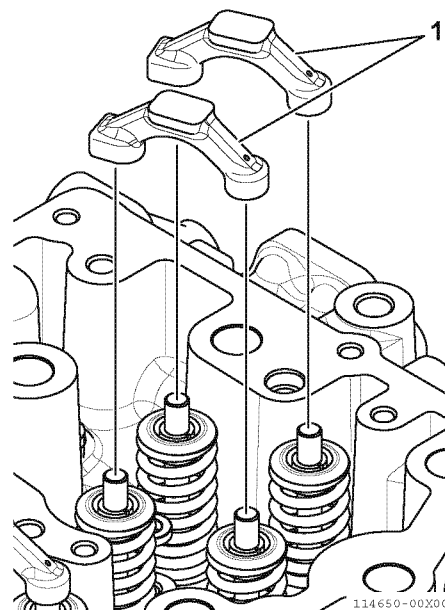

Fig.14-15
3. Remove the valve bridge (1, Fig.14-15). Mark it so it can be reinstalled in the original position.